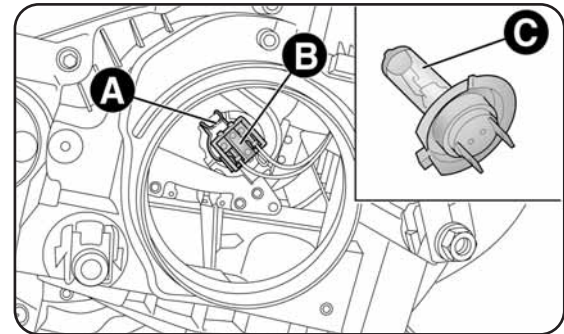

fig. 17
- release the bulb holder clip A-fig. 17;